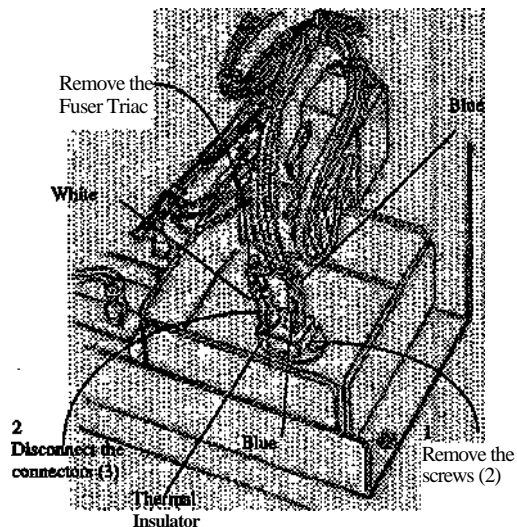

Figure 1. Removing the Fuser Triac
2. (Figure 1): Remove the Fuser Triac.